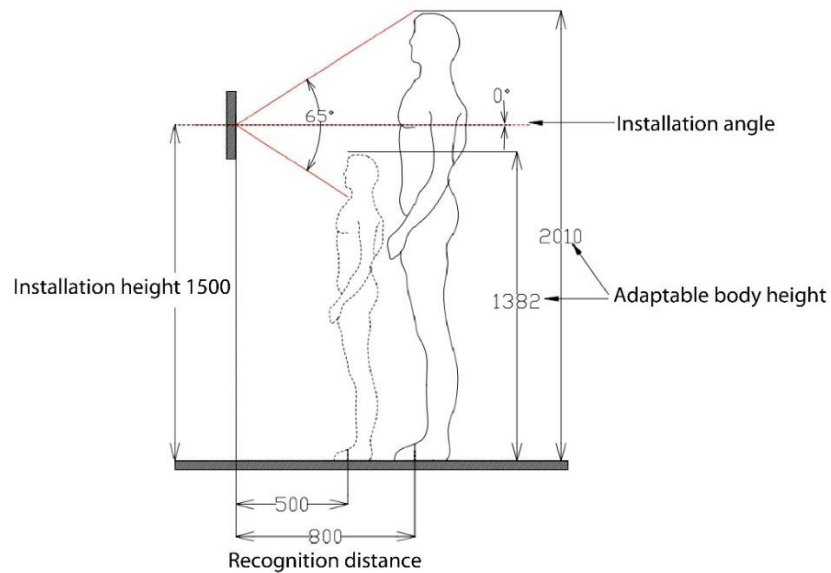

Figure 8.5 Horizontal installation
In horizontal installation mode, the installation angle (b) is set to 0° , and the installation height (H) is set to 1.5 m. If a person can be recognized at a distance of 0.5 m to 0.8 m, the reader can adapt to individuals with a height range between 1.38 m and 2.0 m, as shown in Figure 8.5.